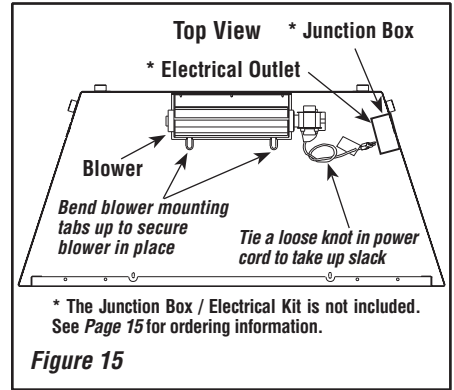

Figure 15
Step 5. Plug power cord into the electrical outlet as illustrated in **Figure 15**.